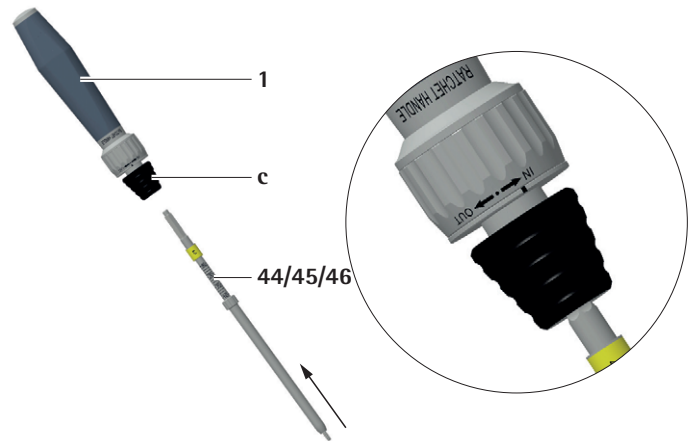

Fig. 15
The ratchet straight handle 1 (SZ001R) can be moved to the following positions by rotating the collar of the handle, as shown on the right side of the image, see Fig. 15:
- ▶ To attach the tap 44/45/46 to the ratchet straight handle 1 (SZ001R), push the ratchet straight handle 1 onto the hex connection of the corresponding tap 44/45/46 up to the stop, see Fig. 15.